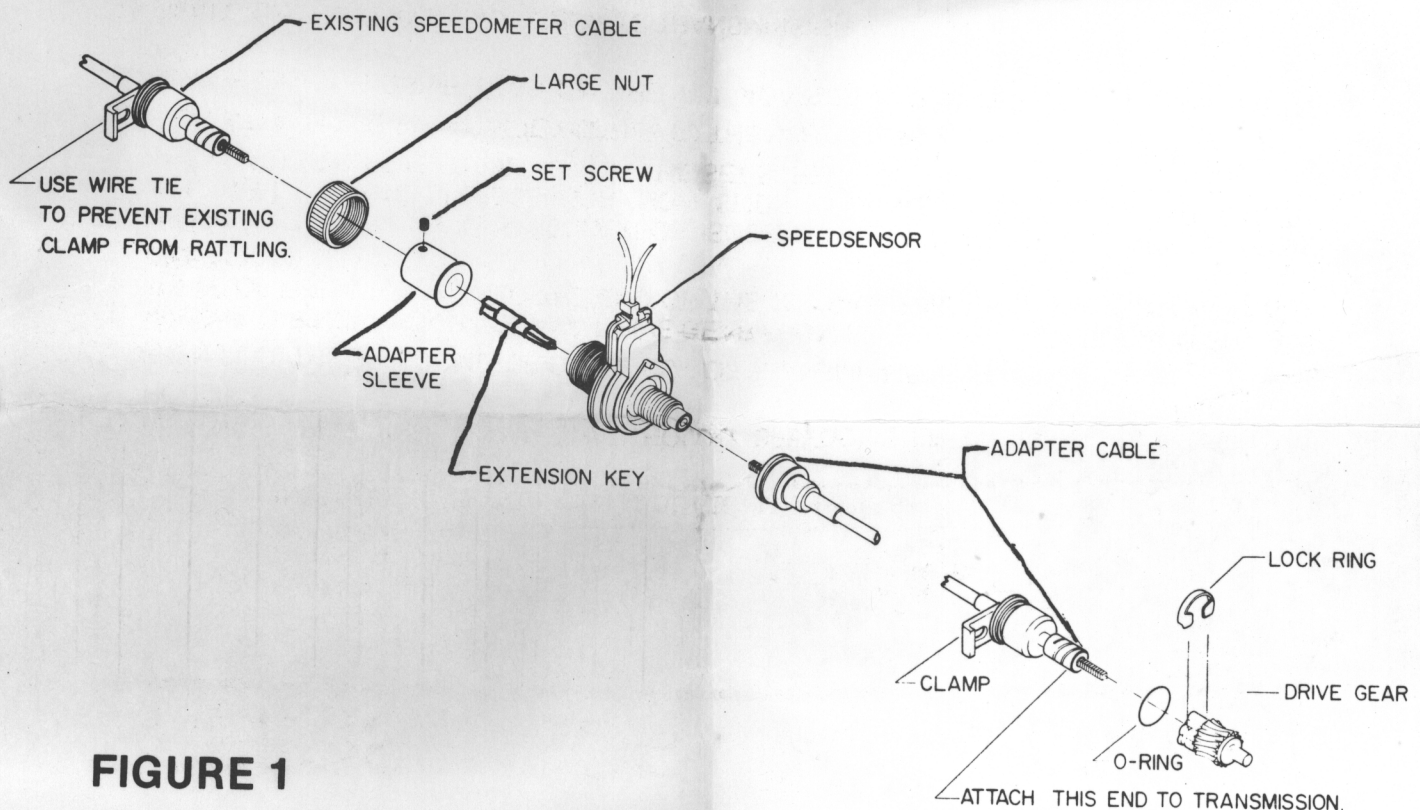

FIGURE 1
3. REMOVE O-RING, LOCK RING, AND DRIVE GEAR FROM SPEEDOMETER CABLE AND PUT ALL THREE OF THESE ITEMS ONTO THE END OF THE 12" CABLE ADAPTER SUPPLIED WITH KIT. (SEE FIG. 1)
4. INSERT EXTENSION KEY IN SPEEDSENSOR, SLIDE LARGE NUT OVER THE ADAPTER SLEEVE AND TIGHTEN ONTO SPEEDSENSOR. NOW SLIDE EXISTING SPEEDOMETER CABLE ONTO THE ADAPTER SLEEVE. THEN TIGHTEN THE SET SCREW. (SEE FIG. 1)
5. NEXT ATTACH THE 12" ADAPTER CABLE TO THE SPEEDSENSOR AS SHOWN IN FIG. 1.